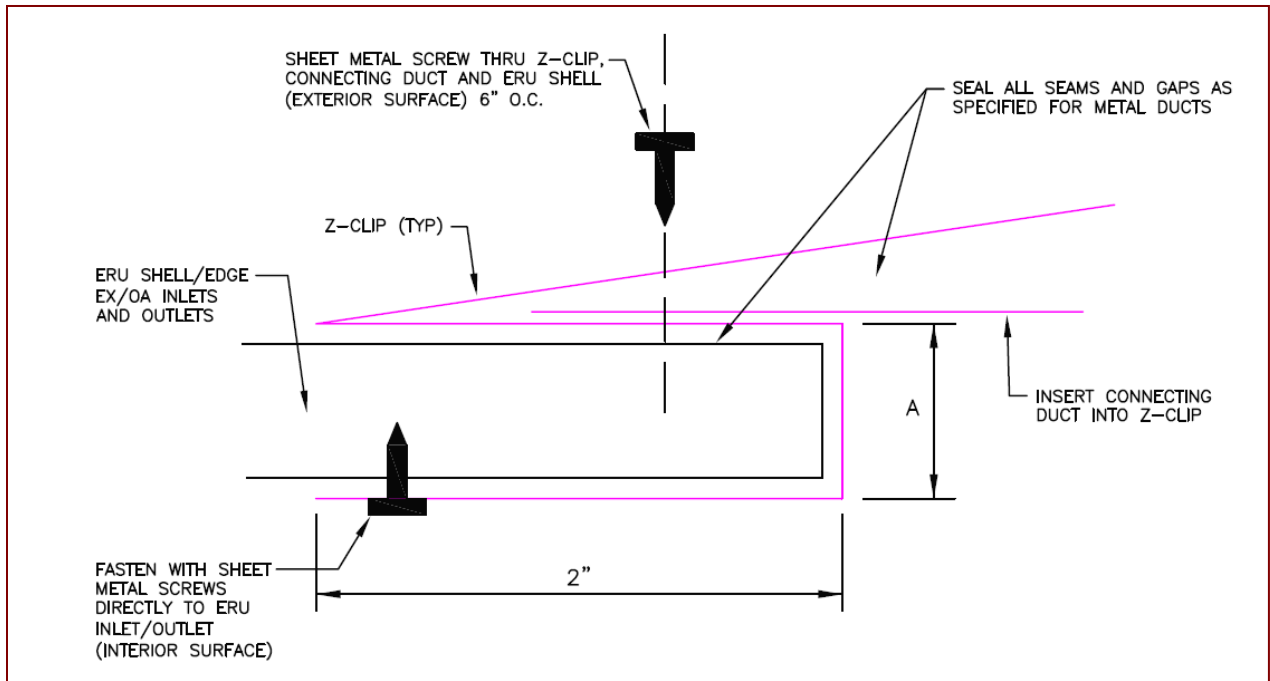

Fig. 3 – Z-Clip Configuration
2. Slide Z-Clips onto all four sides of the ERV inlet/outlet and fasten to the ERV surface with sheet metal screw of the appropriate length. See figure 3.